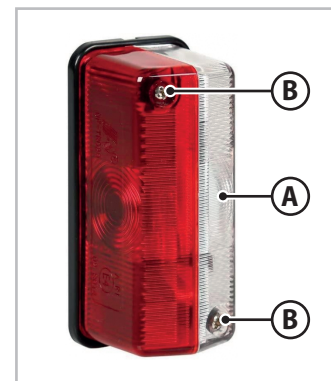

Fig.7.3 - Overcab side marker LED lights
2. Remove the white-red cover (A - Fig.7.3) by removing the mounting screws (B - Fig.7.3).
5. Reassemble the white-red cover (A - Fig.7.3) using the mounting screws (B - Fig.7.3) previously removed.